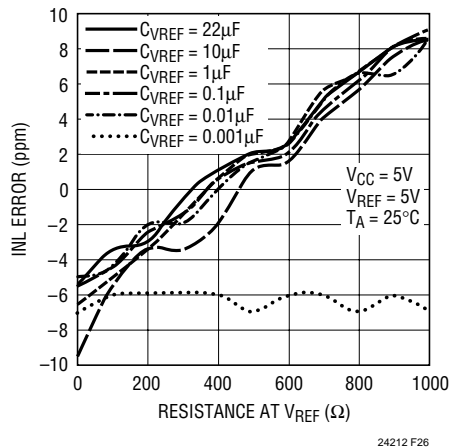

Figure 26. INL Error vs R_{VREF} (Large C)
0.015ppm/ Ω independent of capacitance at V_{REF} , see Figure 26.